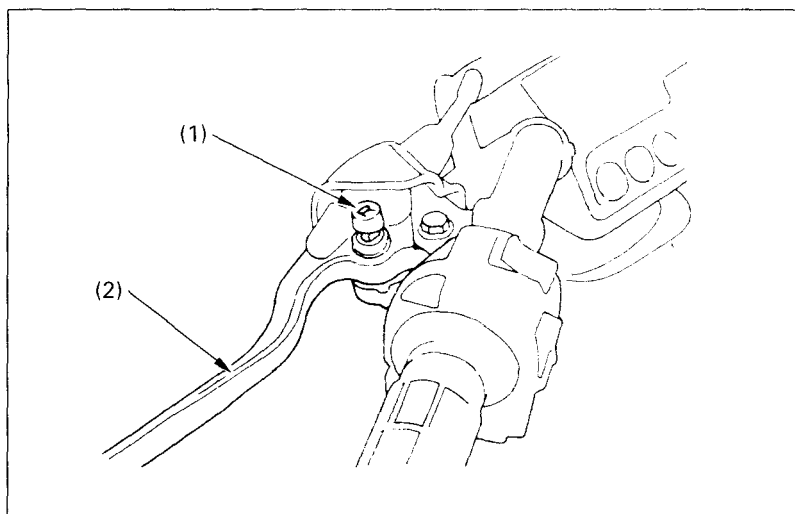

Fig. 2-15 (1) Reverse selector knob (2) Rear brake lever
The reverse selector knob (Fig. 2-15) (1) is on the rear brake lever.